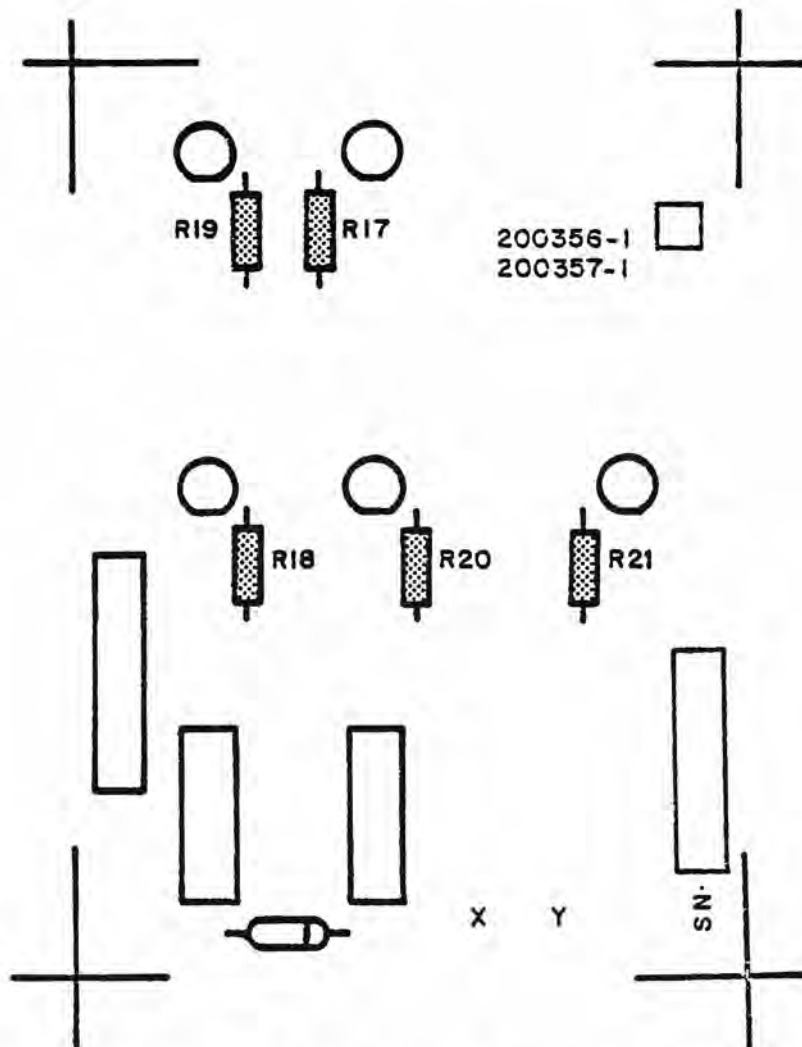

Figure 5-36 Resistor Installation
Install the five (5) resistors (Bag 2) according to the directions in Section 5.2.1.1 in the specified locations on the board. (See Figure 5-36)